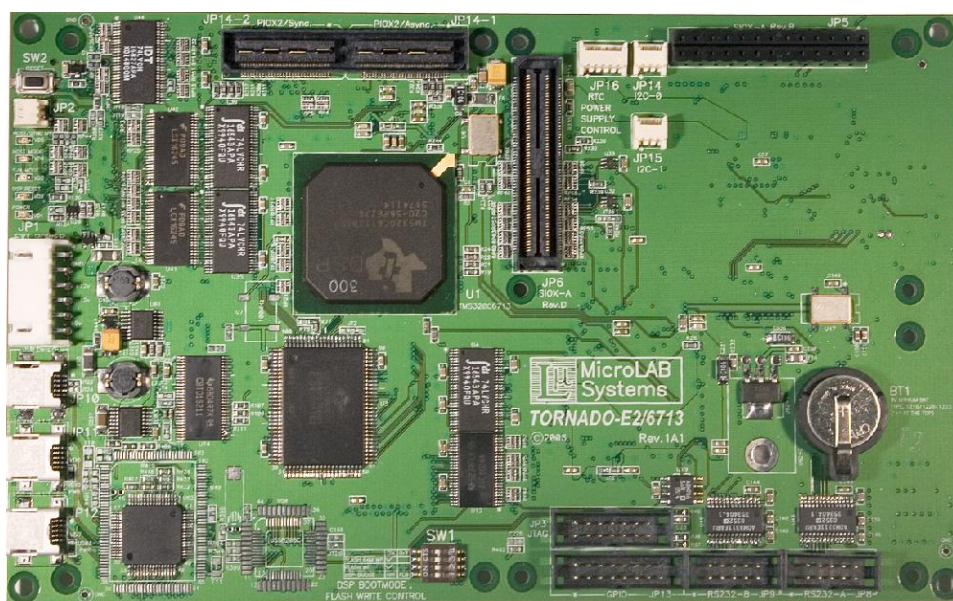

Figure 1-1. *TORNADO-E2/6713* DSP controller.
- *TORNADO-E2/6713* floating-point DSP controller (Figure 1-1).